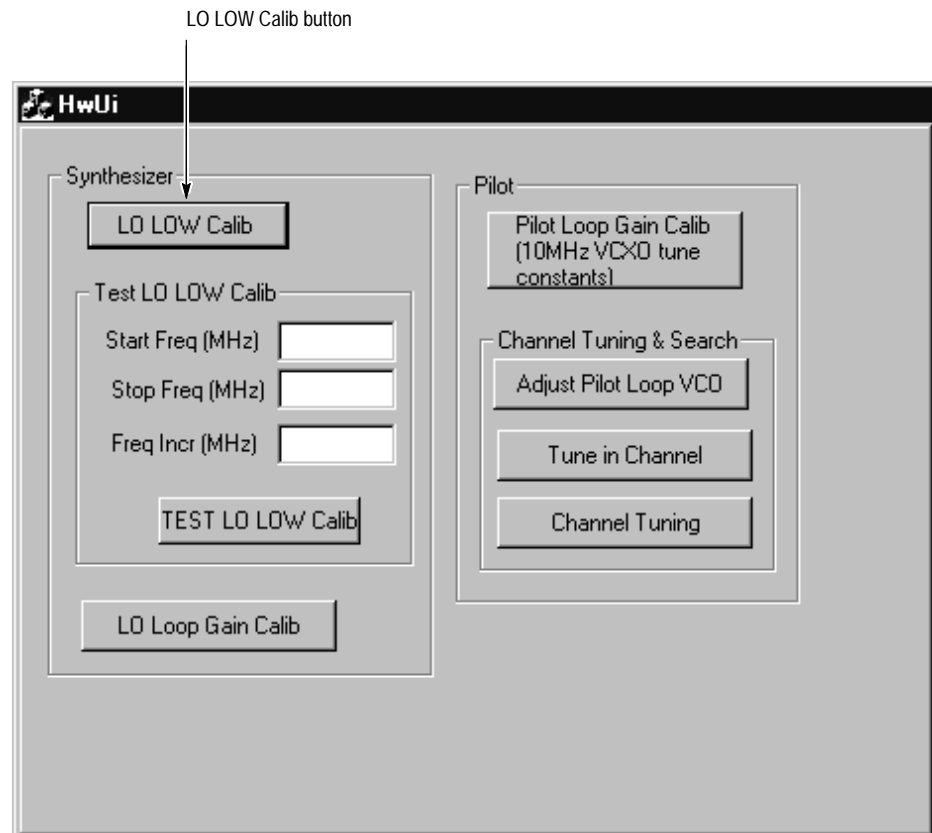

Figure 5–2: Partial Hwui window with Calib selected
1. In HWUI, Select Calib and push the LO Low Calib button (see Figure 5–2). This step may take a few minutes if LO LOW is being calibrated for the first time.
4. Scroll through the hardware settings until LO-LOW Band data appears (see Figure 5–3).